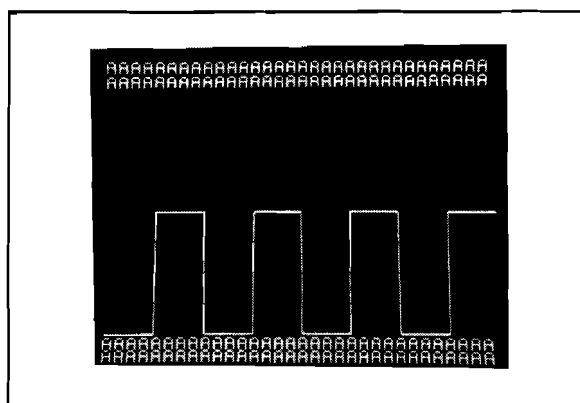

Figure 8-2. Display Test Signal.
- c. **Display Test Pattern Check.** Place the slide switch (S1), located on top of the A9 board, to TEST. A display similar to that shown in Figure 8-2 should be present. If it is not, then proceed to Service Group 5, Display Control, for further troubleshooting.